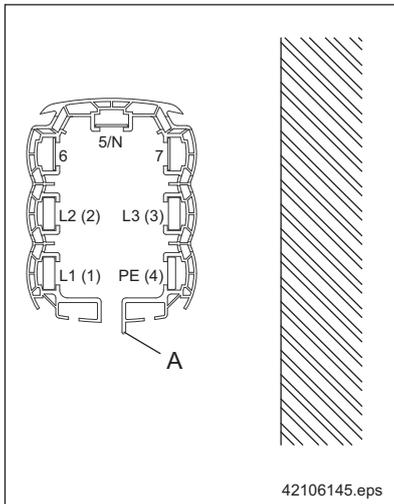

Fig. 8
Ensure that the protective earth conductor (PE) and the profile rib are in the correct position when the sections are assembled ⇒ Fig. 8, Page 25.
- Combine sections (1) with the pre-assembled joint connectors.